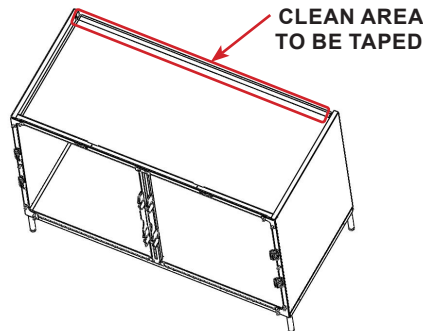

FIGURE 2.61 - Cage Surface Prep
STEP 14: Thoroughly clean the top of the cage(s) with alcohol wipes to remove grease, oil and dirt. The two-sided tape will not adhere to surfaces if not clean and clear of dirt and oils. Refer to "Use and Care" section for safe cleaning recommendations. See FIGURE 2.61